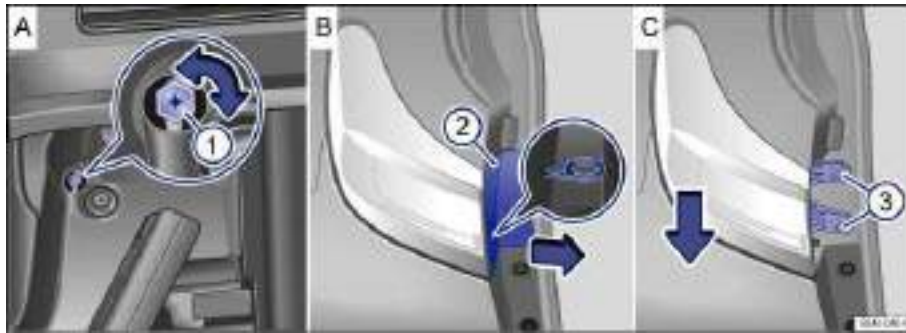
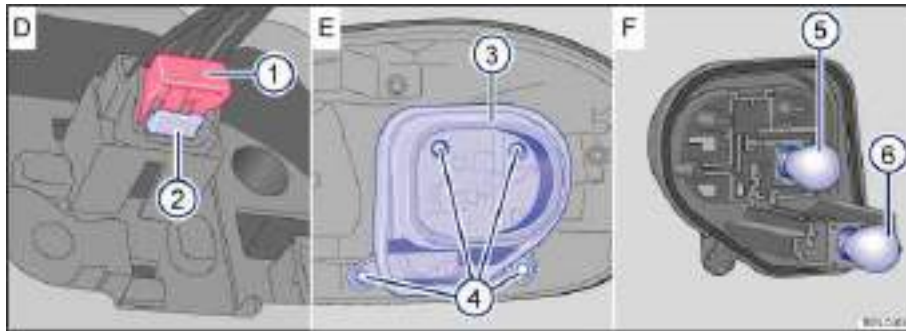

Fig. 206 In the side of the luggage compartment: Releasing the tail light, removing the trim panel and removing the screws.
Fig. 207 Removed tail light: Removing the bulb holder and replacing the tail light and brake light bulb 3 or turn signal bulb 4.
3.	Insert the wire bracket from the vehicle tool kit into the small hole in the trim panel ⇒ fig. 206 (2) B . Remove the trim panel in the direction of the arrow using the wire bracket.
5.	Using the Phillips screwdriver from the vehicle tool kit, turn the locking mechanism (1) A 90 ° counterclockwise until it stops.
6.	Remove the screws (3) C .
8.	Remove the red locking mechanism ⇒ fig. 207 (1) D as illustrated and disconnect the electrical connector with the lever (2) D pressed down.
14.	Turn the locking mechanism ⇒ fig. 206 (1) A 90 ° clockwise until it stops.
15.	Insert the electrical connector into the bulb holder until it clicks into place. Press the red locking mechanism ⇒ fig. 207 (1) D back in.
17.	Hold the tail light in the correct position with one hand and tighten the screws with the other hand (3) C .
18.	Insert the trim panel ⇒ fig. 206 (2) B into its original position, first at the bottom and then at the top.